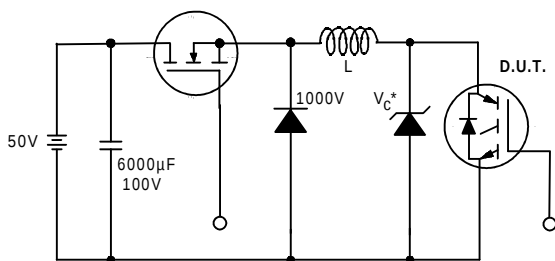

Figure 19. Clamped Inductive Load Test Circuit
- ② $V_{CC}=80\%(V_{CES})$, $V_{GE}=20V$, $L=10\mu H$, $R_G=5.0W$ (figure 19)
- ③ Pulse width $\leq 8\mu s$; duty factor $\leq 0.1\%$.
- ④ Pulse width $5.0\mu s$, single shot.